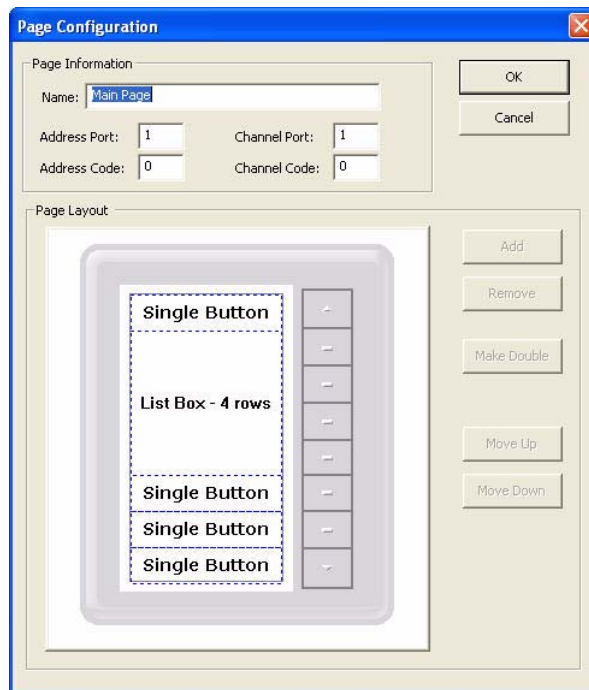

FIG. 30 Page Configuration dialog
Both the Mio Modero DMS and Mio Modero DMS Pinnacle behave the same when it comes to editing the page configuration of keypad pages within a project file. To launch the *Page Configuration* dialog (FIG. 30), go to **Project > Page Configuration...**
2. Go to **Project > Page Configuration...** to launch the *Page Configuration* dialog (FIG. 30).